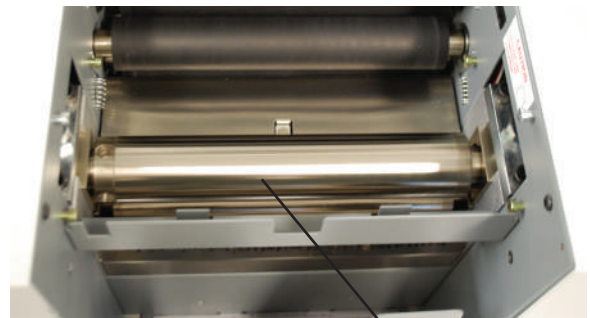

Fig. 11
1. Make sure machine is turned off and unplugged. All folders have four (4) rubber rollers (Fig. 11).